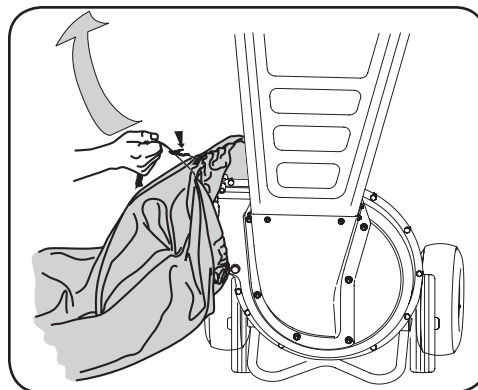

Figure 2-2
1. Place the opening of the bag completely over the chute deflector. See Figure 2-2.